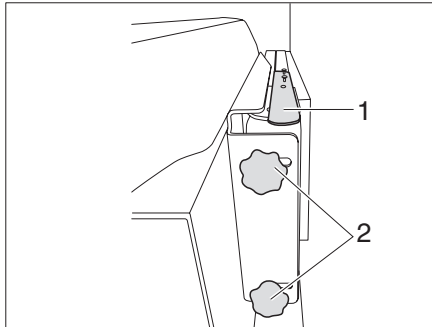

Fig. 68 Bracket with jointed arm (Variant 1)
- Press the lever (Fig. 68,1) down to release the flat screen from the lock. Release the lever.
- Undo the 2 knurled screws (Fig. 68,2) and swivel the flat screen into the desired position. Retighten the knurled screws (Fig. 68,2).